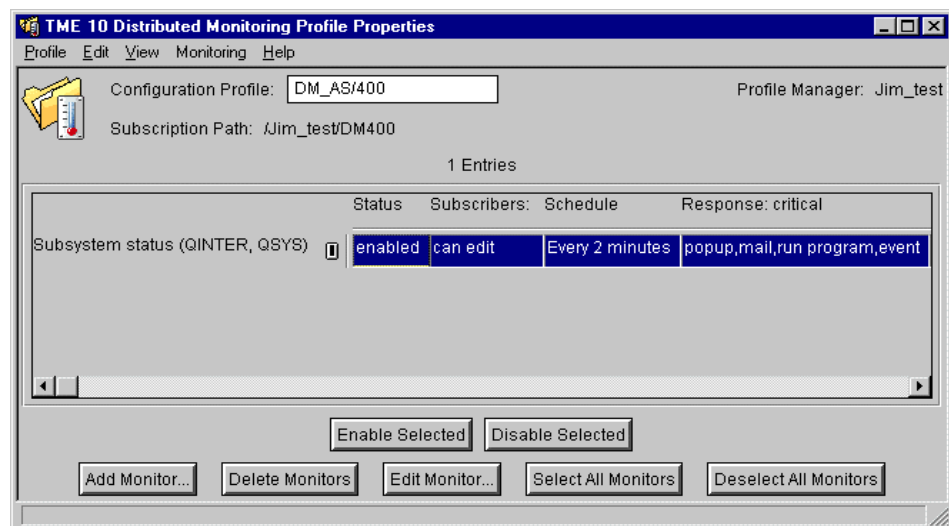

Figure 273. Distributed Monitoring Properties
- Now, double click on the new profile icon. This will display the Distributed Monitoring Profile Properties screen. This screen lists all your monitor definitions for this particular profile as shown in Figure 273.